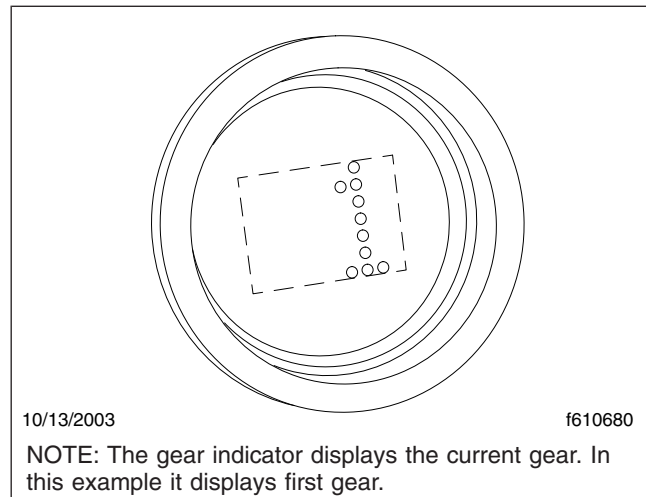

Fig. 15.13, Gear Display Module
- The gear display module (Fig. 15.13) mounted on the dashboard indicates the current gear position or transmission status. The display also flashes the next gear to be engaged while the transmission is in neutral during a gear change.